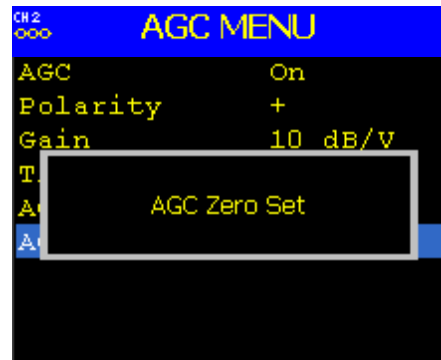

Figure 53: AGC Menu, AGC Zero Set Message
4. An AGC Zero Set message briefly displays, as shown in Figure 53, to indicate AGC Zero is activated.